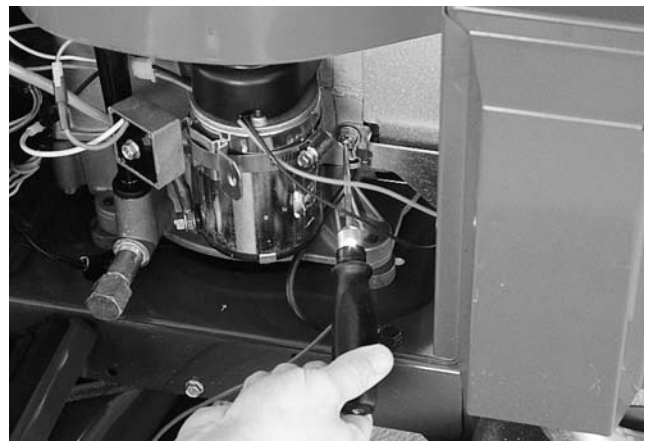

Figure 3-28.
10. To test for ground, connect one test lead to the positive terminal of the battery and the other lead to the engine block. If voltage is present the engine is grounded properly. If not, check that the ground wires are clean and properly connected. See Figure 3-28.